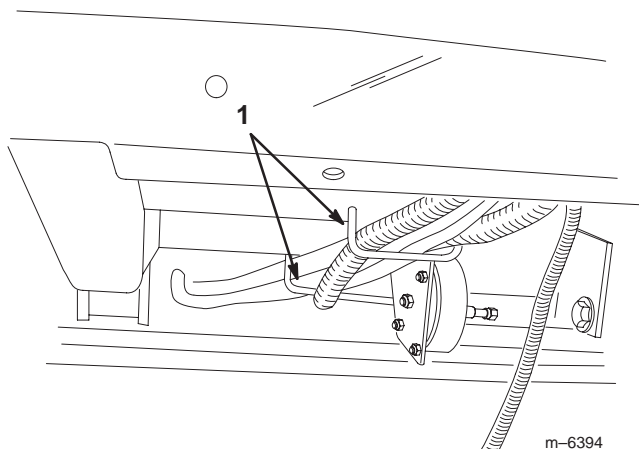

Figure 23
8. Route the rear control box harness through the dash, under the vehicle, through the wire harness rings, and back to the control box (Fig. 23 and 24).